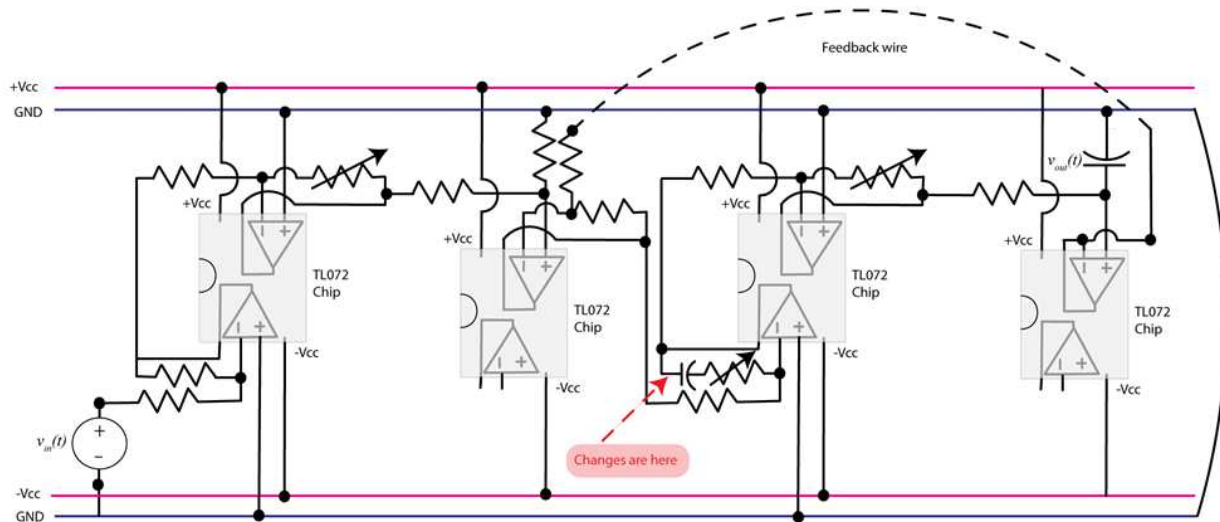

Figure 15: PI Controller Schematic
1. In this part, you will change the proportional controller to a proportional plus integral controller to determine how it affects the first order plant. This requires only slight modification in the circuit to make it look like Figure 15.
- Remove the $1\text{ k}\Omega$ feedback resistor between pins 1 and 2 on the proportional controller with a $1\text{ }\mu\text{F}$ capacitor in series with a variable resistor (see Figure 15).